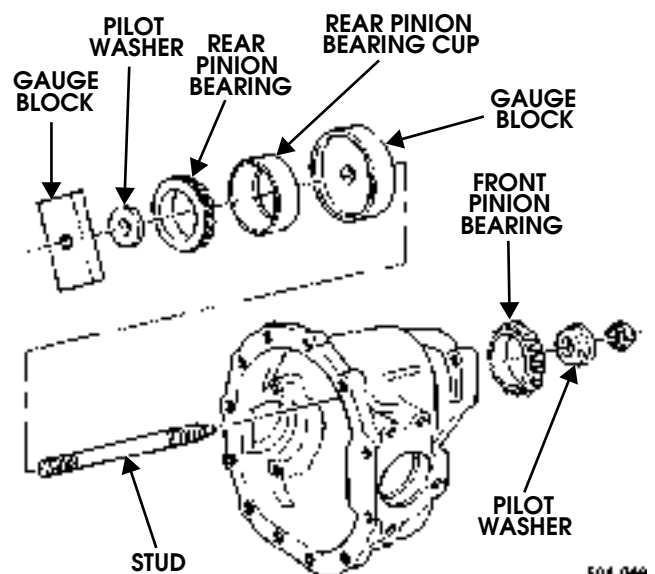

Figure 9-84: Pinion Depth Setting Gauge Installation
- Using pinion setting gauge set, install gauge block, rear pinion bearing cup, rear pinion bearing, and pilot washer on stud and secure with gauge block from set J-39524 (Figure 9-84).